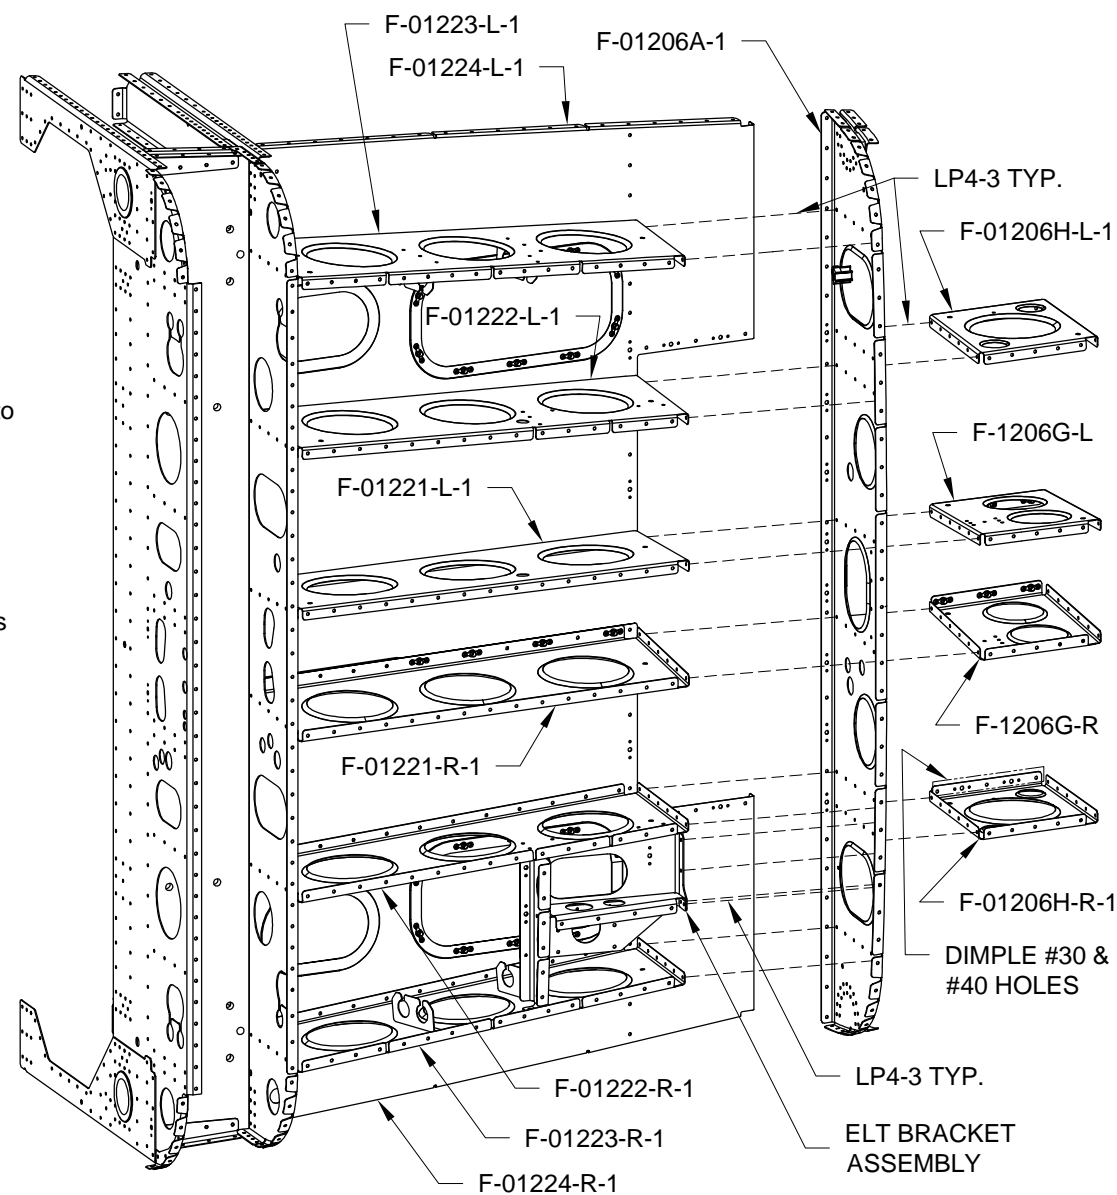

FIGURE 2:
Step 2: Rivet F-01206A-1 to F-01222-L-1 & -R-1 and F-01223-L-1 & -R-1 using the rivets called out in Figure 2.